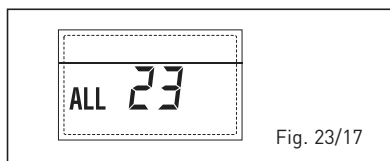

Fig. 23/17
– **ANOMALIE SONDE COLLECTEUR SOLAIRE (S1) “ALL 24”** (fig. 23/18)